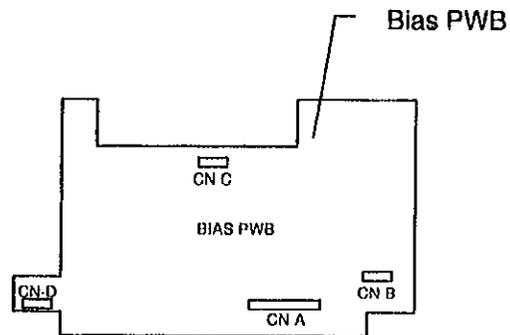

Figure 1. Adjusting the Bias Voltage
2. (Figure 1): Adjust VR301 on the bias PWB until the voltage is between -247 to -253 VDC.